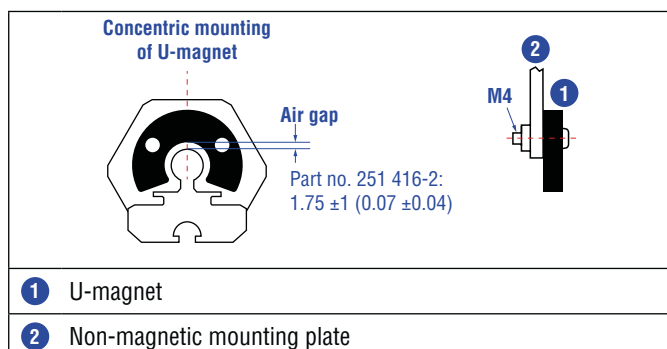
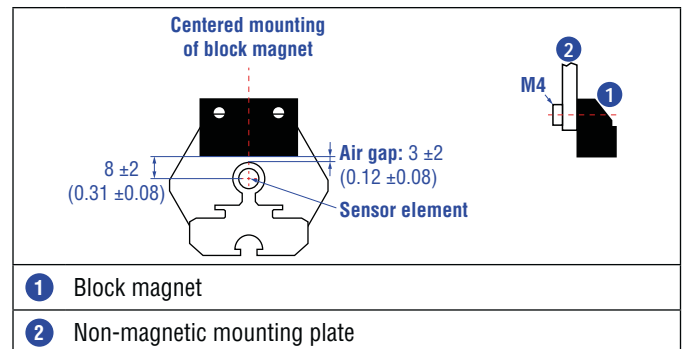

Fig. 30: Mounting of U-magnet (part no. 251 416-2)
Fig. 31: Mounting of block magnet (part no. 403 448)
- The maximum permissible air gap must not be exceeded (Fig. 30/ Fig. 31). Take care to mount the primary sensor axis in parallel to the magnet path in order to avoid damage to the carriage, magnet and sensor rod/sensor profile.